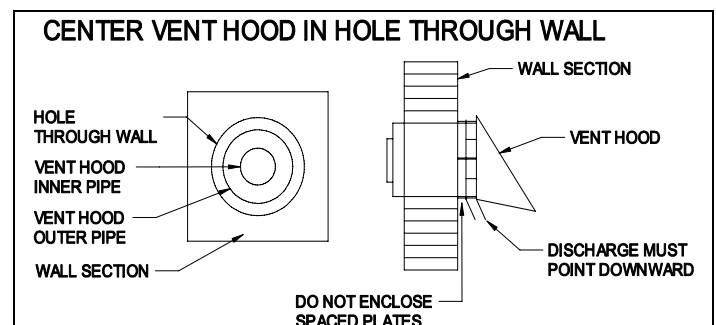

Figure 4
1. Use the inside wall plate as a template to mark the hole location. Cut a hole 1 inch larger than the marked hole to facilitate easy installation (See Figure 4)